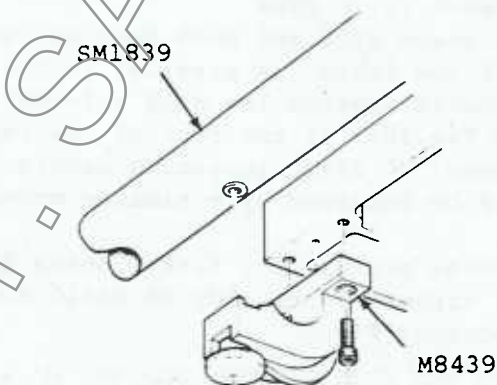

Fig. 12
1. Locate both rail support brackets M8439 on underside of cast table by means of the 8mm diameter fixed dowels. Retain loosely in position with M10 cap screws supplied, (see Fig. 12)